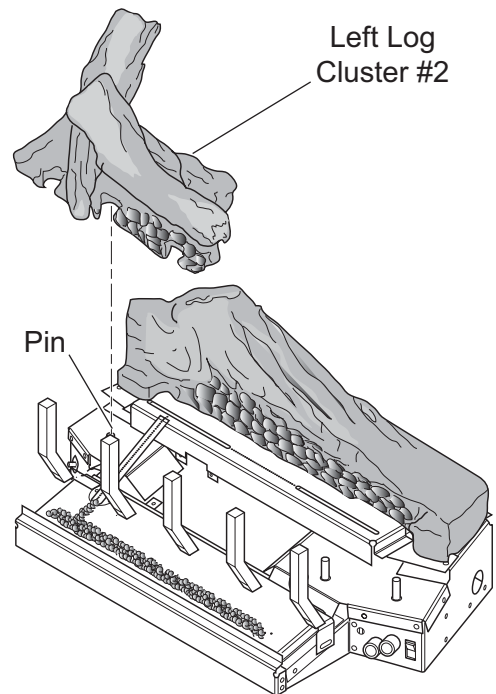

Figure 27 - Installing Left Log Cluster (#2)
2. Install left log cluster (#2) on pin located near left edge of base. See *Figure 27*.